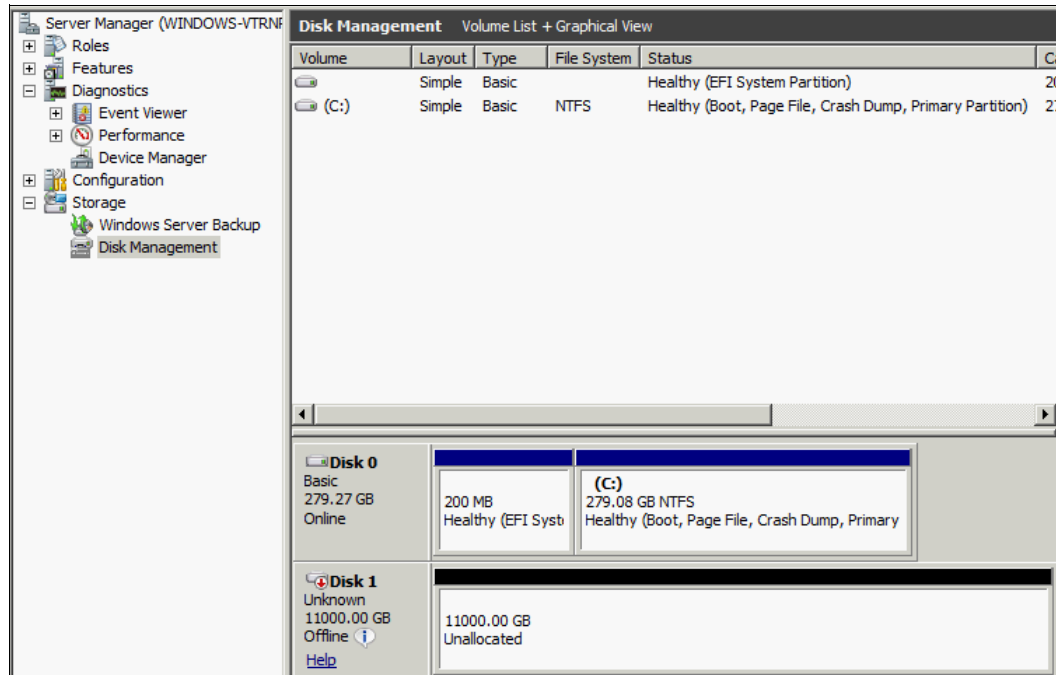

Figure 12-24 Windows Disk Management
- Open the Windows Disk Management window (Figure 12-24) by clicking **Start** → **Run**, typing `diskmgmt.msc`, or simply opening it from the Server Manager, then click **OK**.